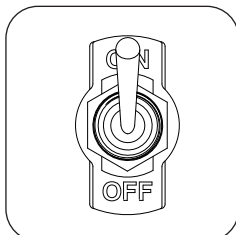

Fig. 26-2 Toggle switch
2. Flip the toggle switch to **ON** to ignite the burner (see Fig. 26-2). The valve will open and the burner will light.
**To shut down the main burner (pilot will remain lit)**, flip the toggle switch to **OFF** (see Fig. 26-2).